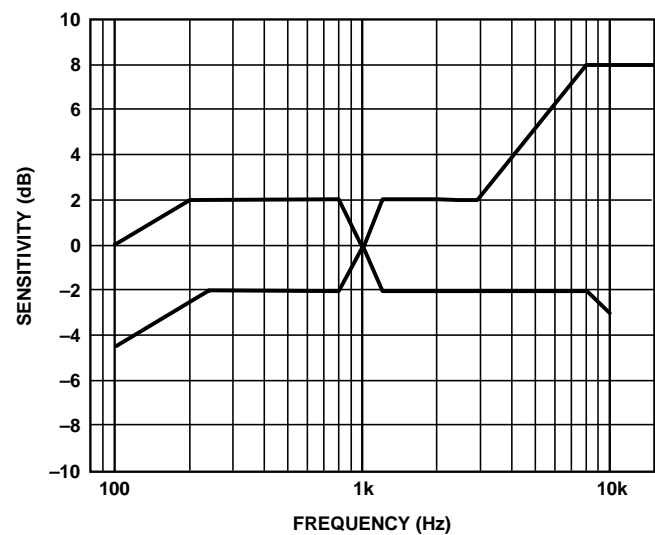
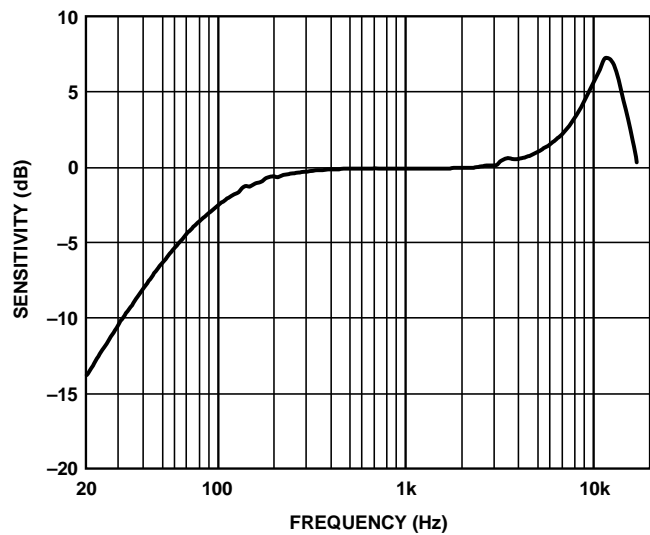

Figure 3. Frequency Response Mask
Figure 4. Typical Frequency Response (Measured)
**Note 1:** See Figure 3 and Figure 4.